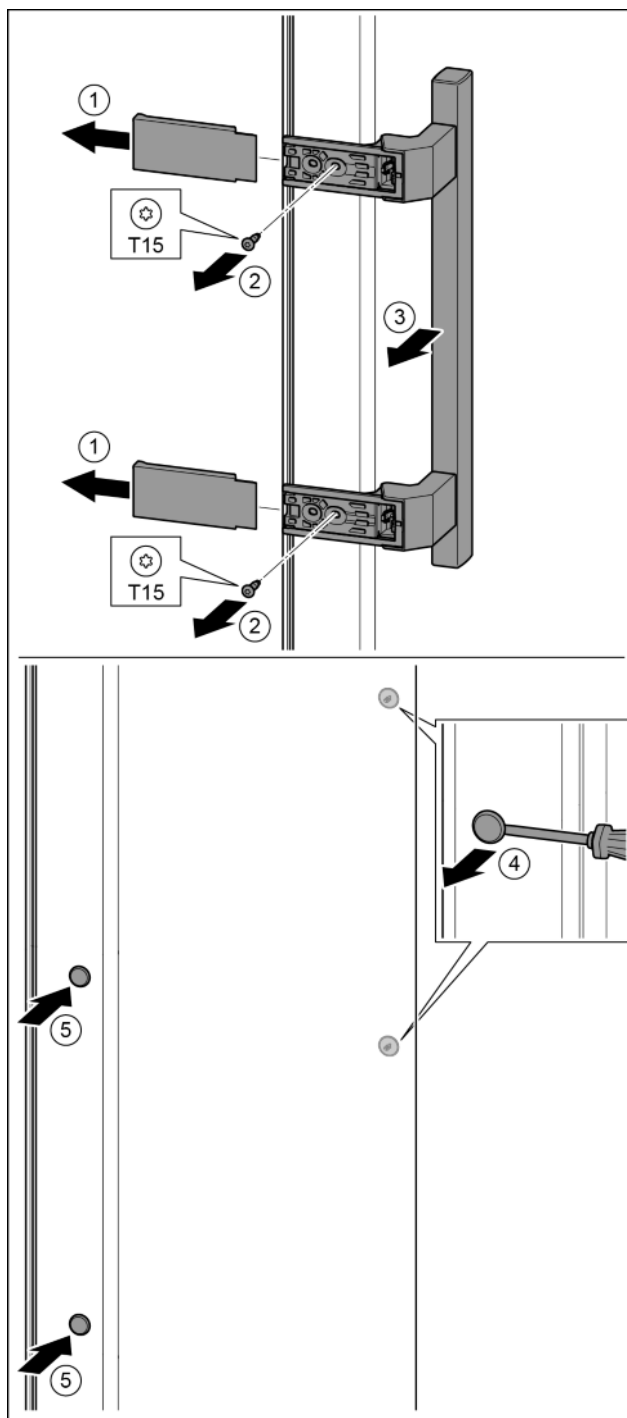

Fig. 19
- Pull off the cover. Fig. 19 (1)
- Remove the screws with the T15 screwdriver. Fig. 19 (2)
- Remove the handle. Fig. 19 (3)
- Carefully lift up the side plugs with a slotted screwdriver and pull them out. Fig. 19 (4)
- Insert the plugs again on the other side. Fig. 19 (5)